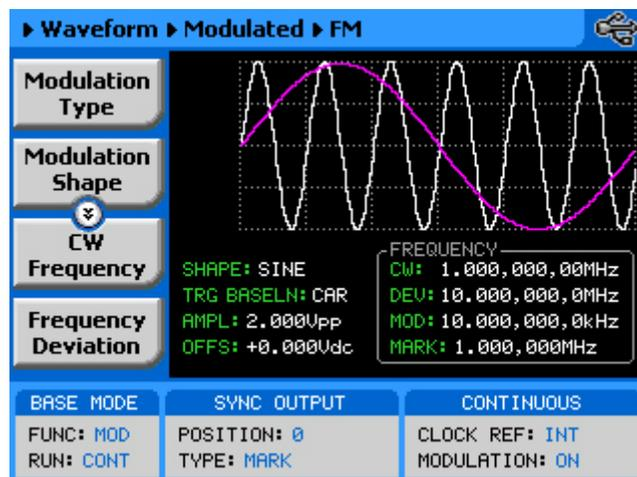

Figure 3-18, FM Modulation Parameters
Frequency modulation is the most common modulation scheme used in telecommunications. In this mode, the carrier waveform (CW) is modulated by an internal modulating waveform. The FM function has a number of menus that control the modulation parameters. These are shown in Figure 3-18 and described in the following paragraphs: